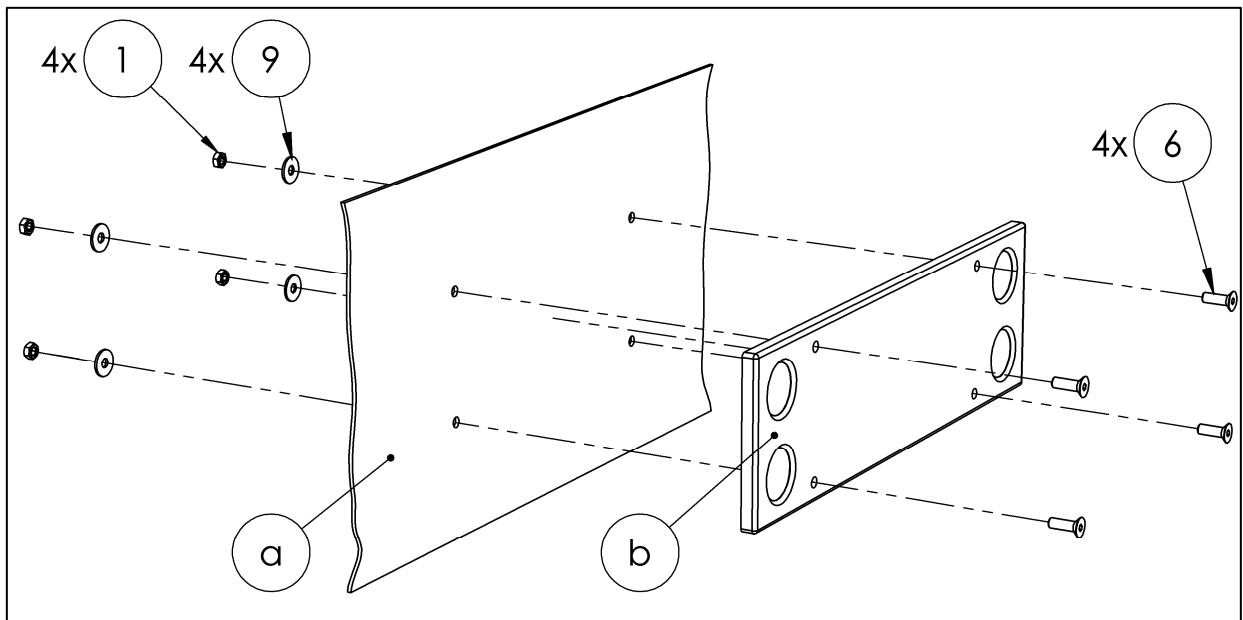
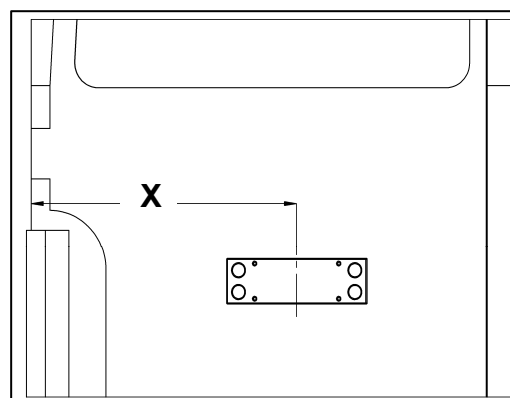

Fig. 33
Fig. 44
- Route the Control panel cable to the cargo area so that it can be secured to the right-hand door (a) (protect against knicks and ensure correct cable length for fully opened door, using corrugated tubing if necessary) (see Fig. 33).
- Secure the Control panel (b) to the right-hand vehicle door (a) using the fasteners (1, 6, 9) from the **accessories kit**, maintaining a distance of 400 mm  $\pm$ 100 mm ( $15\frac{3}{4}'' \pm 3\frac{15}{16}''$ ) as per specifications (see Fig. 33 and Fig. 44).